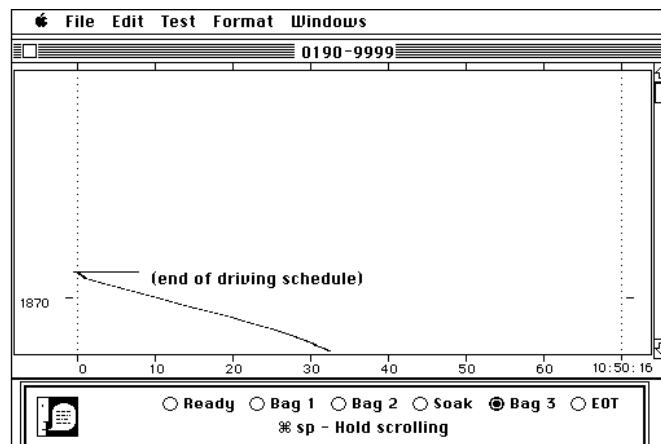

Figure 22
- 424 At the 1874-second point of the UDDS, the VDA will automatically switch off the 3rd set of sample bags. See Figure 22. The “EOT” indicator will come on and the VDA will automatically save the test data.